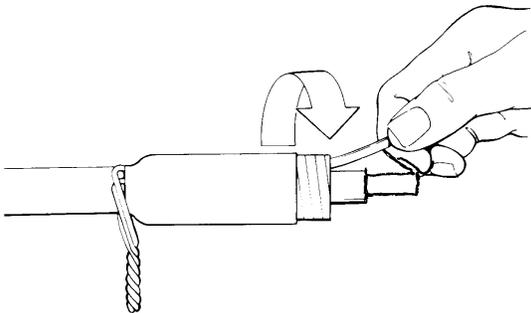

Figure 2a (JCN Cable)
3. Remove termination core by unwinding counter-clockwise starting with the loose end. Make sure the termination body is butted up to the edge of the neutral wires. (Figure 2a, 2b.) Note: An occasional tug of the strand while unwinding will aid in core removal. Wipe off excess silicone grease from the exposed insulation.